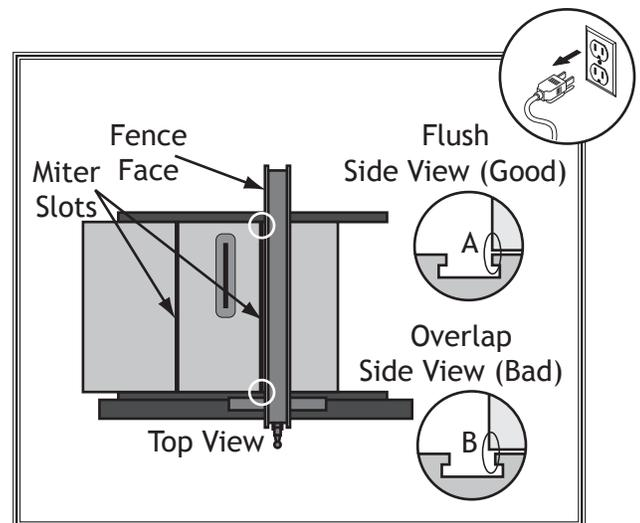

Figure 117. Example of aligning fence to miter slot.
5. Slide fence up against right-hand edge of miter slot, as shown in **Figure 117**, and lock it in place.
- If fence and miter slot are flush from front to rear, as shown in **Figure 117** (Side View A), fence is parallel and no further steps are required.
- If rear of fence overlaps miter slot, as shown in **Figure 117** (Side View B), fence is misaligned. Proceed to **Step 7**.